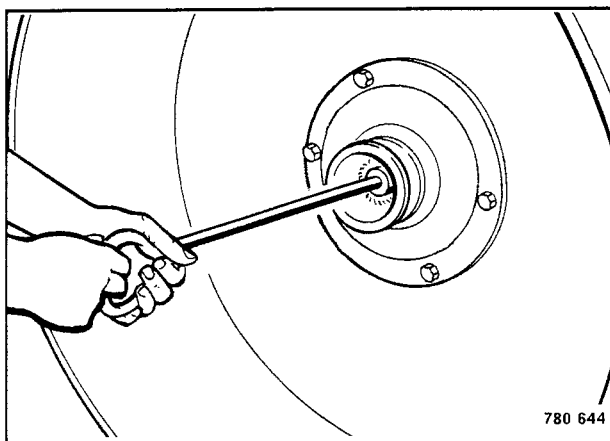

Fig. 12
4. Pull the vibrator shaft out of the bearing housing against the end stop (Fig. 12).